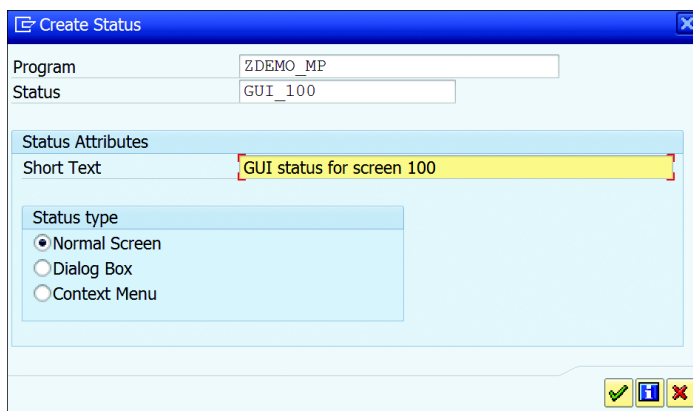

Figure 12.39 Create Status
2. In the **CREATE STATUS** window, as shown in Figure 12.39, enter the status name and a description. For **STATUS TYPE**, select **NORMAL SCREEN**. If you're creating the GUI status for a model dialog box, you should select the **DIALOG BOX** option. If you're creating a context menu (displayed on right-click), you should select the **CONTEXT MENU** option. Click **CONTINUE**.